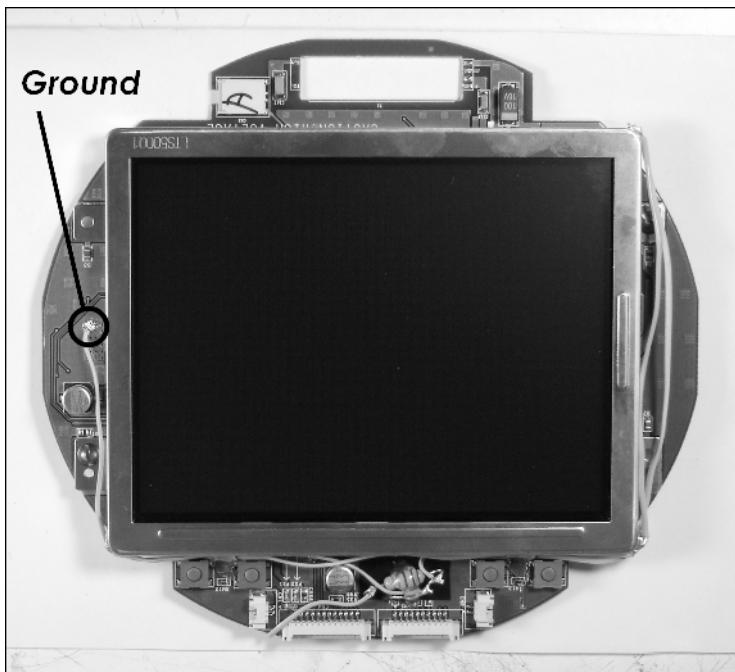

FIGURE 4-29: The completed LED mod, with ground spot indicated.
13. Connect the other end of the resistor to the long positive lead of each LED. Connect all the short negative LED leads to each other and then connect them to the ground spot indicated on Figure 4-29.